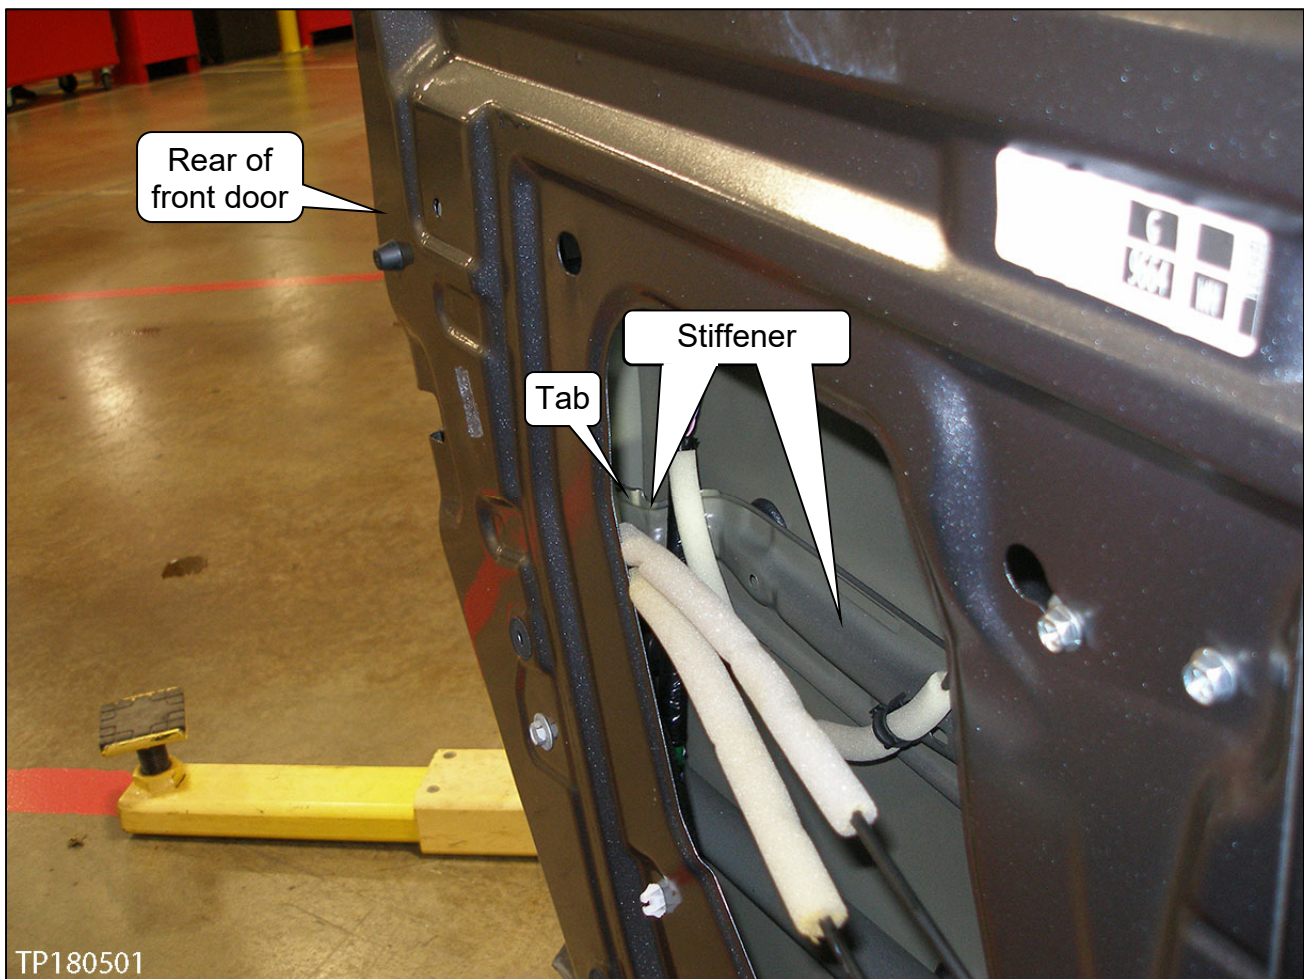

Figure 1
- Refer to Figure 1 below, and Figure 2 on the next page.